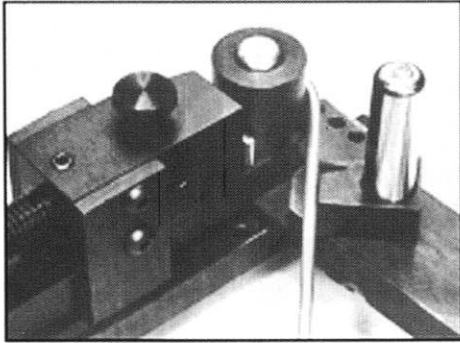

Figure 8
2. Put the Sharp Angle Plate onto the short shaft on the handle as shown in Figure 8.